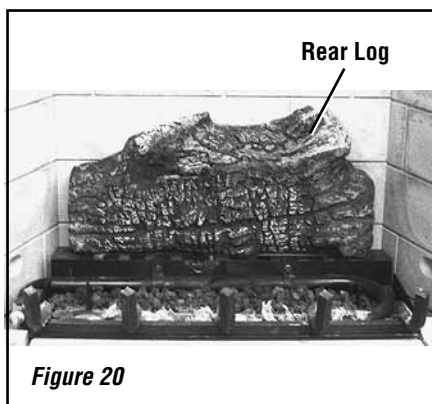

Figure 20
Step 1. To position the logs, begin by placing the rear log in position over the two pins located at the left rear and right rear of the log grate, see **Figure 18 and Figure 20**.